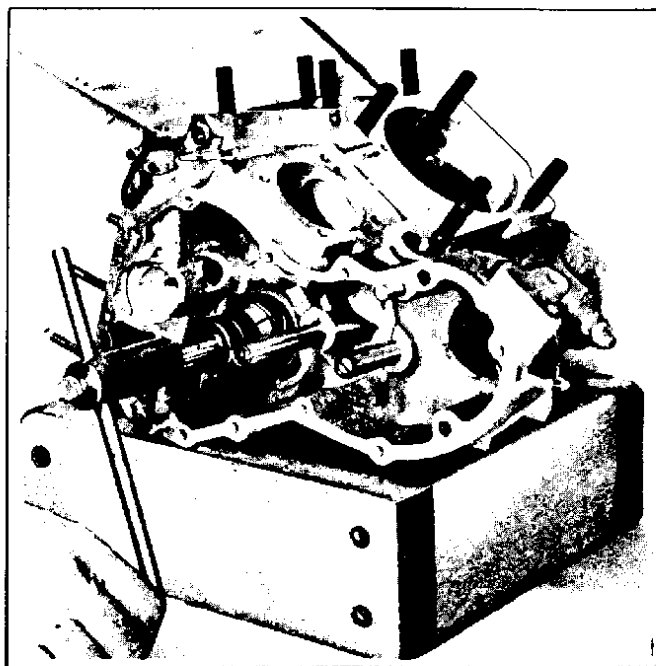

Figure 3E-15. Lapping Pinion Shaft Main Bearing Race
**LAPPING ENGINE MAIN BEARINGS** (Fig. 3E-15). Secure right and left crankcase halves with three crankcase stud bolts (top center and bottom left and right). The sprocket shaft bearing outer races and large spacer must be installed in left crankcase.